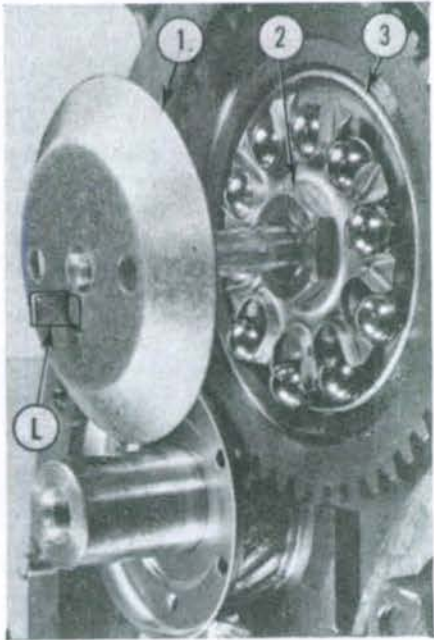

Fig. 50—Camshaft mounted governor weight unit and associated parts of the type used on gasoline engine.
Governor ball and driver assembly (3—Fig. 50) is available only as a unit which can be renewed after removing camshaft nut (2). Tighten the camshaft nut to a torque of 95-108 N·m (70-80 ft.-lbs.).